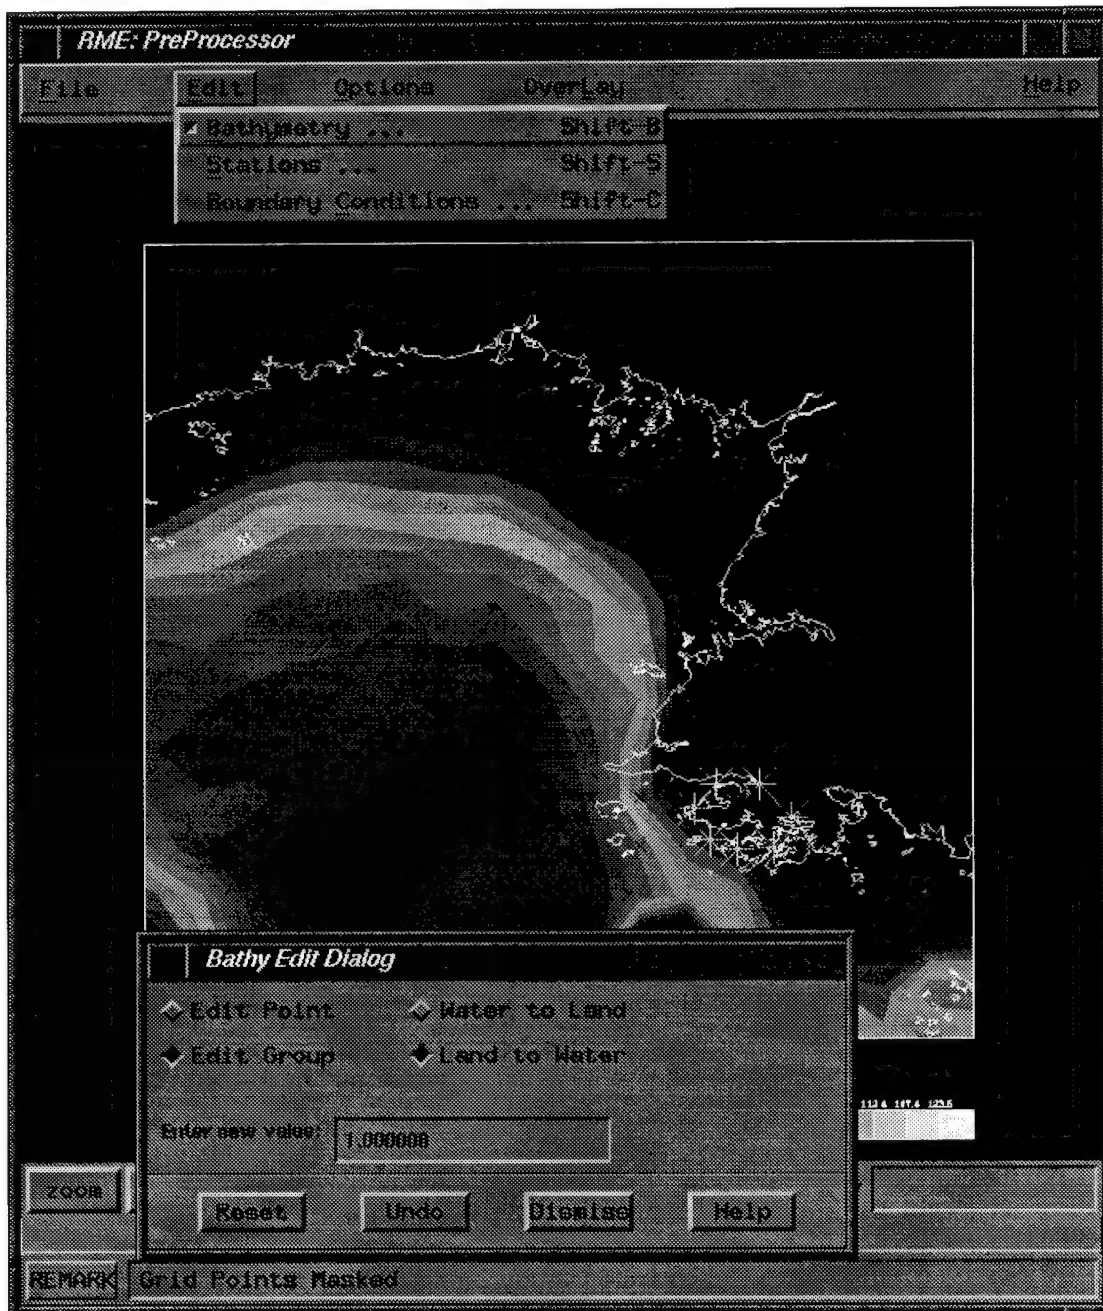

Figure 20 – Bathymetry editing in the Pre-Processor GUI
This feature is activated by the 'Bathymetry' option of the 'Edit' pull down menu. When activated, it pops up a 'Bathy Edit Dialog' window (Figure 20) which has four radio buttons for choosing editing options. To edit bathymetry, the following steps are taken:
9. Click on several places on the plot with the middle mouse button creating yellow crosses, which are used as zone markers (see Figure 20).